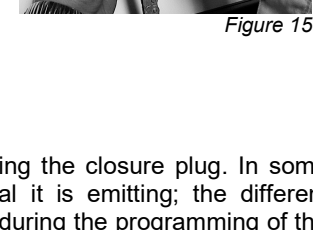

Figure 15
- Complete assembly of the chain terminal with the safety clip inserted onto the provided pin Ø4x32 in median position (see fig. 15).